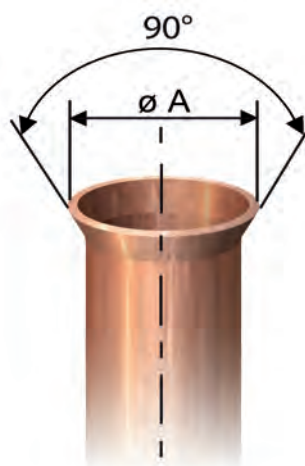

Fig. 30: Correct flange shape
9. ➤ Verify that the shape of the flange is correct (Fig. 30).